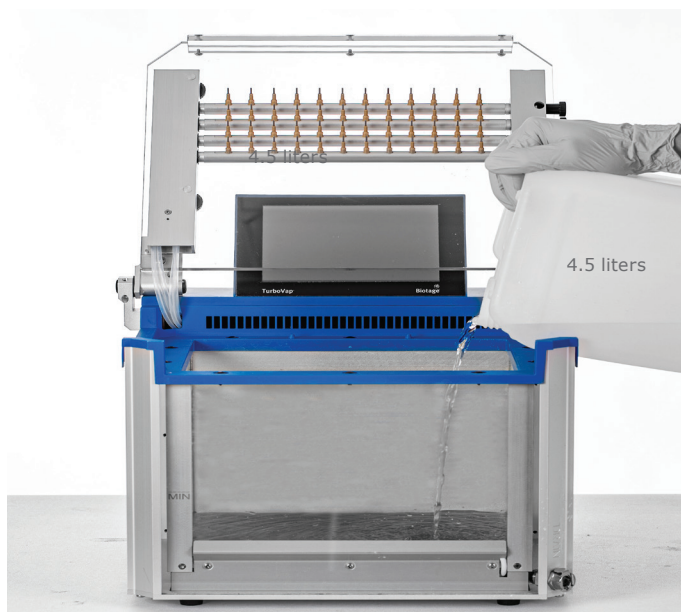

Figure 12. The water's surface must be above the minimum level marked on the water bath but not higher than just below the blue water bath top cover.
1. Open the lid of the TurboVap P+ system and pour **deionized** water into the water bath until the level reaches the MIN level marked on the water bath; see Figure 12. This should be about 4.5 liters.